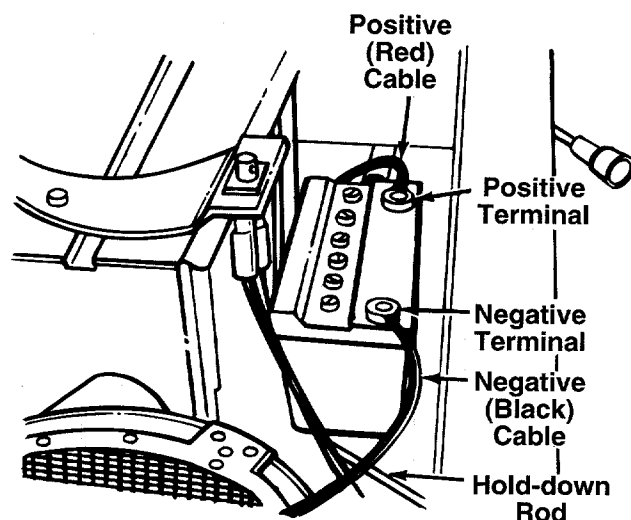

FIGURE 9.
1. Place the battery in the lawn tractor with the positive terminal to the front. The negative terminal goes to the rear of the unit. See figure 9.